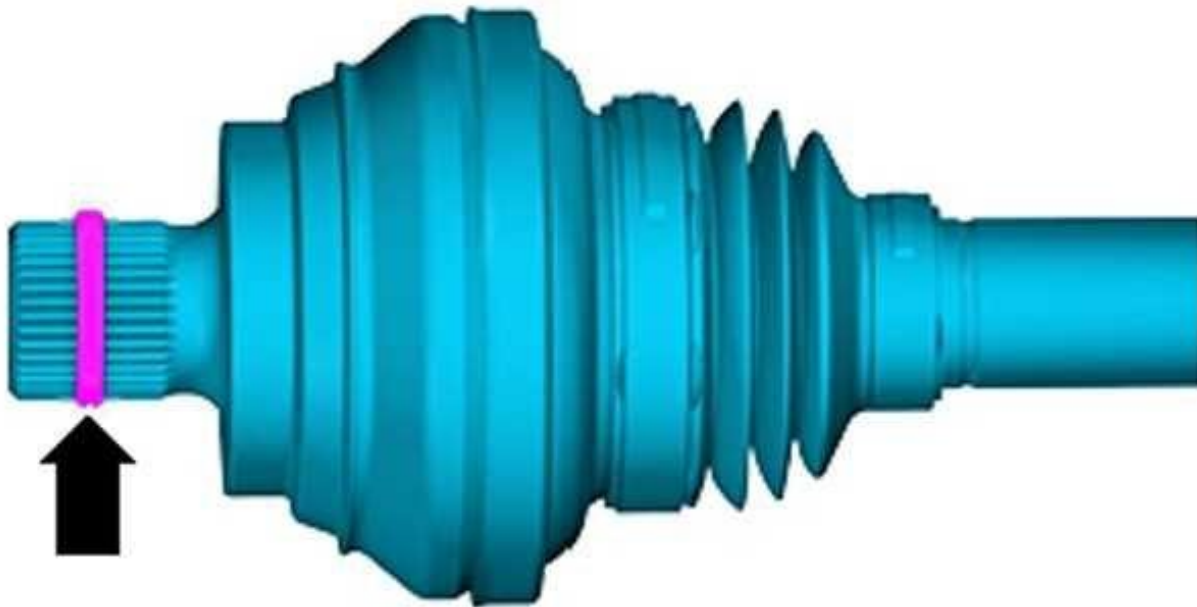

Figure 1. Continuous bead on stub axle.
- Apply a bead all the way around (see arrow in figure 1).